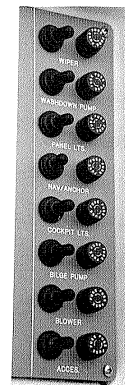

Figure 18
8. Test all switches on the accessory panel. Make sure the switches activate the equipment they control, and all equipment is in good operating condition. See figure 18.